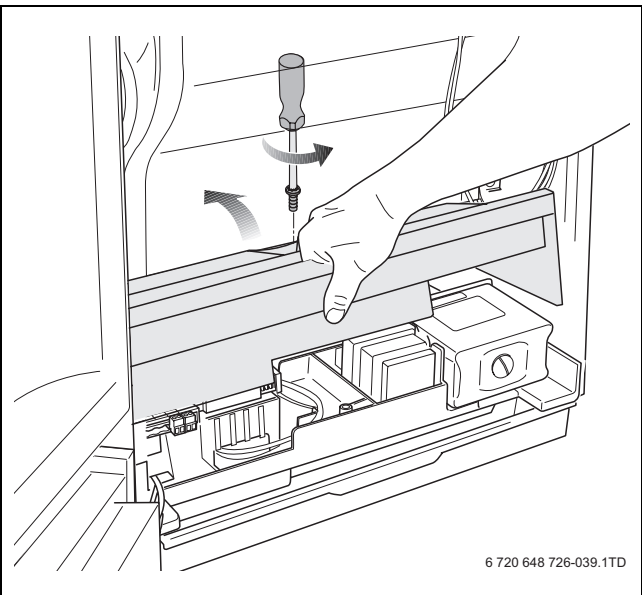

Fig. 39 Pull up the cover over the electrical connections
- ▶ Undo 1 screw to release the cover over the electrical connections and pull the cover upwards (→ fig. 39).